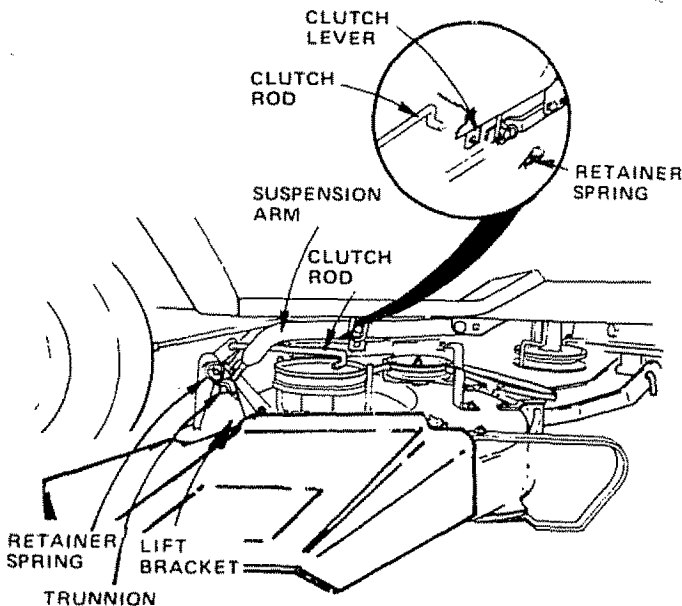

FIGURE 8
- Install clutch rod in clutch lever (Fig. 8 - Inset).
- Move lift lever forward to lower suspension arms. Slide trunnions through lift bracket holes and secure with retainer spring (Fig. 8).